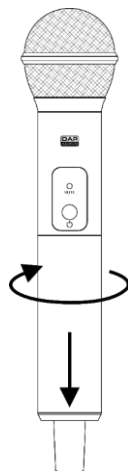

Fig. 10
- 01) Turn the PSS on by setting the **power switch (12)** to ON position.
- 02) Turn the microphone on by pressing and holding down the **power/mute switch (40)** for 3 seconds. The **LED status indicator (39)** will light up green.
- 03) Press the **UP/DOWN buttons (05/07)** in order to choose one of the 100 channels (see page 15 for the frequency range chart). Alternatively, press and hold down the **UP button (05)** for 6 seconds, for quick channel search. The **display (09)** will show:
- 04) Once you have chosen a channel, press and hold down the **UP button (05)** for 3 seconds. The currently chosen channel's number will start blinking.
- 05) Remove the battery cover (Fig. 10). **Otherwise it will not be possible to pair the devices.**